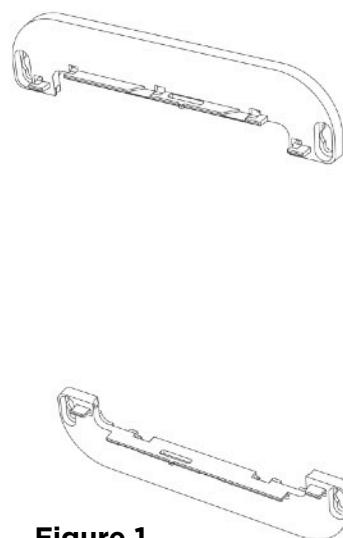
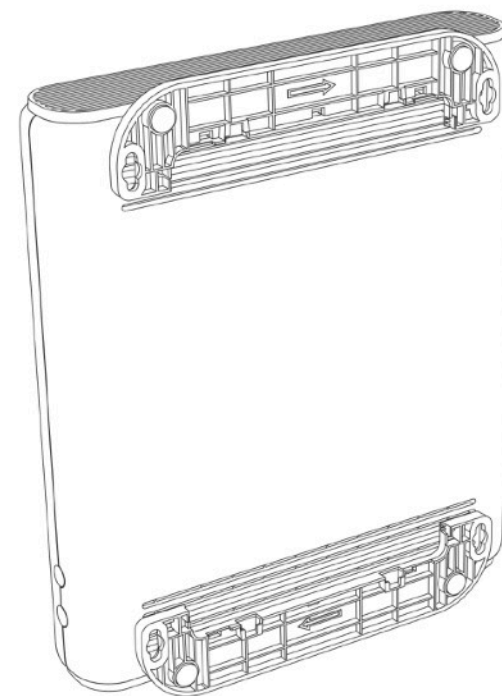

Figure 1
Figure 2
5. Separate the wall mounting pieces. Mount the top and bottom leg stand pieces (**Figure 1**) onto the UBC1319AA00 as shown in **Figure 2**.